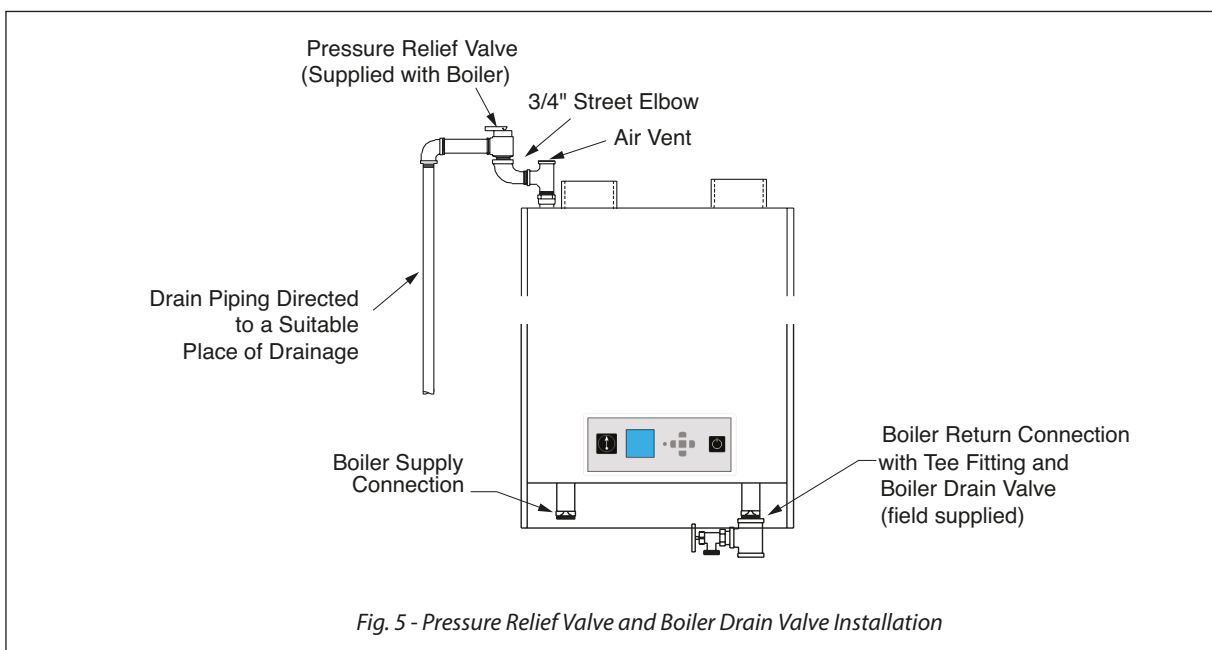

Fig. 5 - Pressure Relief Valve and Boiler Drain Valve Installation
1. The PRESTIGE Solo is supplied with a 30 psi pressure relief valve and must be piped using the PRV connection as shown in *Fig. 5 below*.